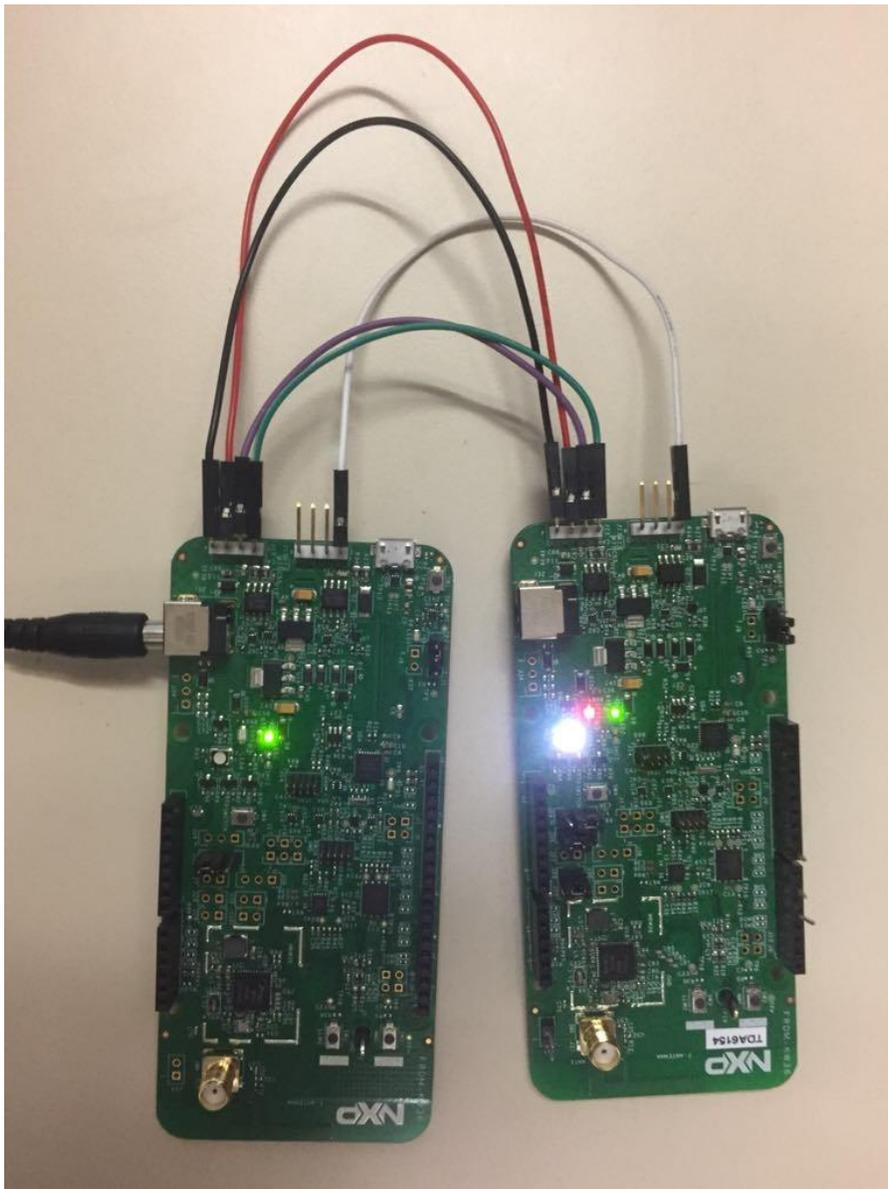

Figure 28. Connections between boards
2. Connect the 12V DC source to one of the boards on J32. Connections are shown in *Figure 28*. LED3 and LED 4 will start blinking red and white on FRDM-KW36 board A.